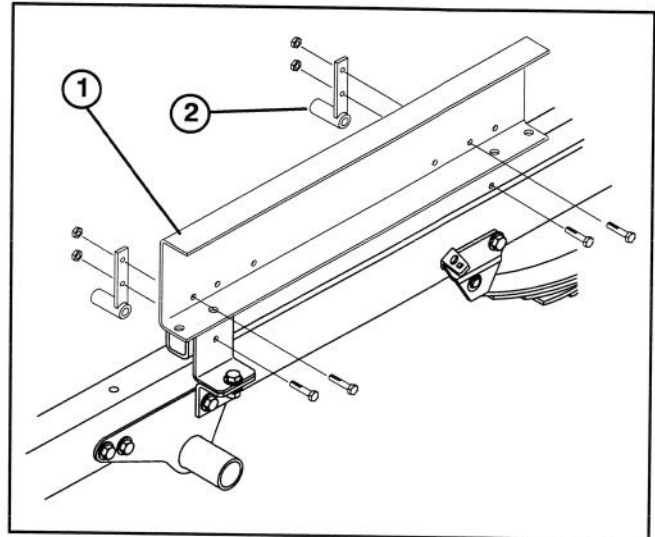

Figure 12
39. Secure lift mounting brackets to lift with (4) 5/16-18 x 1" lg. flange head capscrews and flangenuts. Position brackets as shown in figure 12.
41. Secure lift mounting brackets to H.D. Hitch Tubes with (4) 5/16-18 x 2-3/4" lg. flange head capscrews and flangenuts.